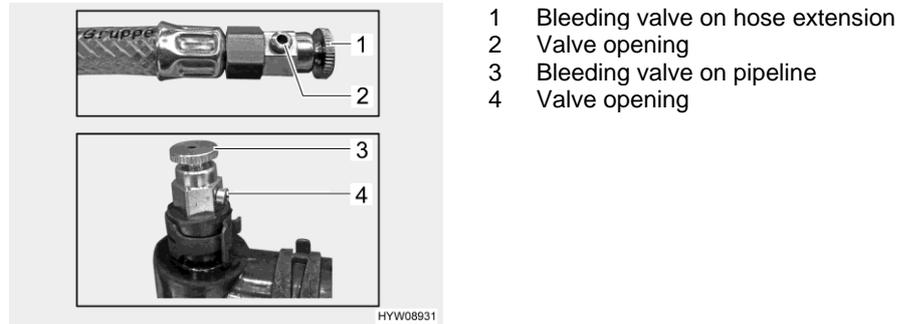

Fig. 214 Bleeding valves (hot-water heater)
- Open the bleeding valve (Fig. 214,1 or 3) and keep it open until no more air comes out of the valve opening (Fig. 214,2 or 4).